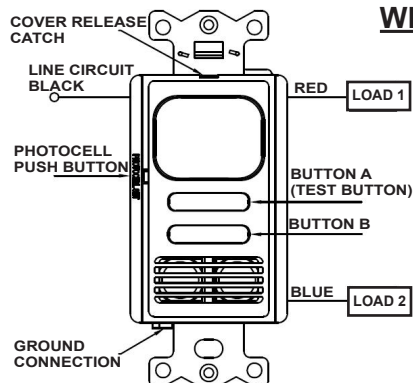
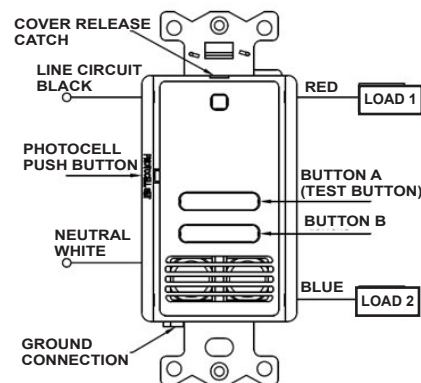

FIGURE 1
FIGURE 3
3. Wire as shown in the **WIRING DIAGRAMS** section. Figures 1 and 2 denote wiring method for Leakage to Ground Sensors (**NOTE:** A secure ground is required for proper operation). Figures 3 and 4 denote wiring method for Neutral Wiring Sensors.